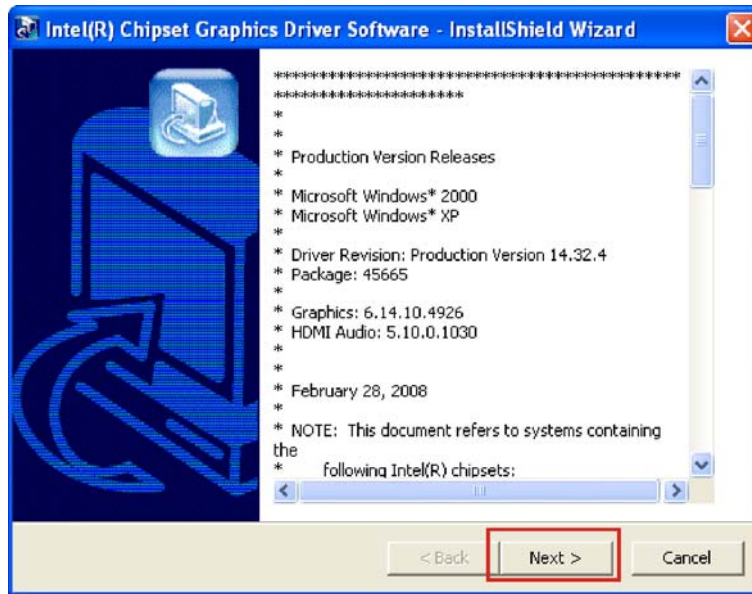

Figure 7-9: VGA Driver Read Me File
Step 22: The VGA Read Me file in Figure 7-9 appears.